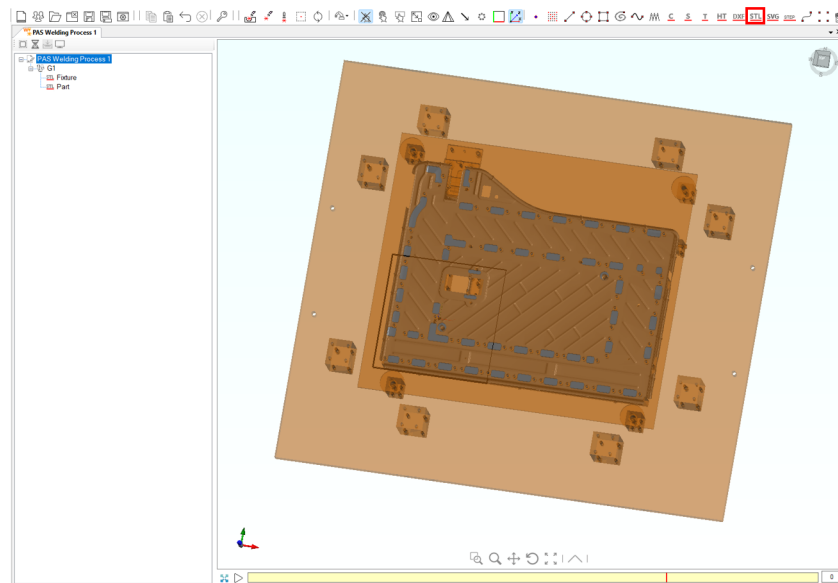

Figure 334: Importing STL Models to a Job
3. Import the desired STL model(s) into the job. See Figure 334 (below).